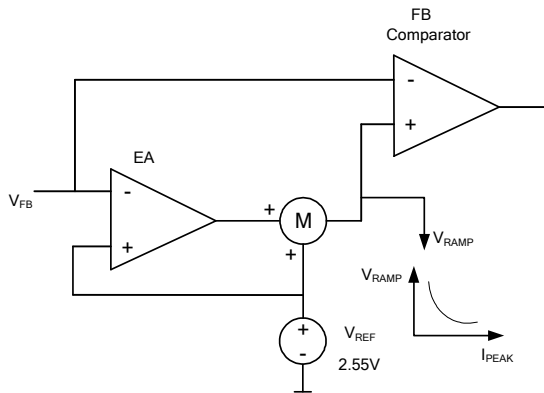

Figure 4: EA and Ramp Compensation Ramp Compensation
The MP171A has an internal error amplifier (EA) compensation loop (see Figure 4). It samples the feedback voltage 6μs after the MOSFET turns off, and regulates the output based on the 2.55V reference voltage.
An internal ramp compensation circuit improves the load regulation. An exponential voltage signal is added to pull down the feedback comparator's reference voltage (see Figure 4). The ramp compensation is a function of the load conditions; the compensation is about 1mV/μs under full-load conditions. The compensation increases exponentially as the peak current decreases.